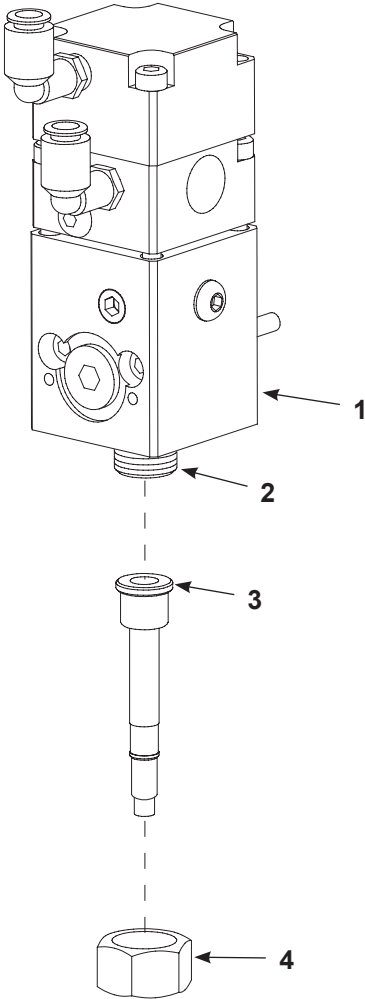

Figure 9 Typical Nozzle Installation
- 1. See Figure 9. Lubricate the threads (2) on the dispense valve (1) with a lubricant that is compatible with the dispense material.
- 2. Install the nozzle (3) using the nozzle nut (4). Tighten the nozzle nut securely.
4. See Figure 9. Carefully remove the nozzle nut (4) and nozzle (3) from the dispense valve (1). Clean the nozzle and dispense valve threads (2) with a compatible solvent.